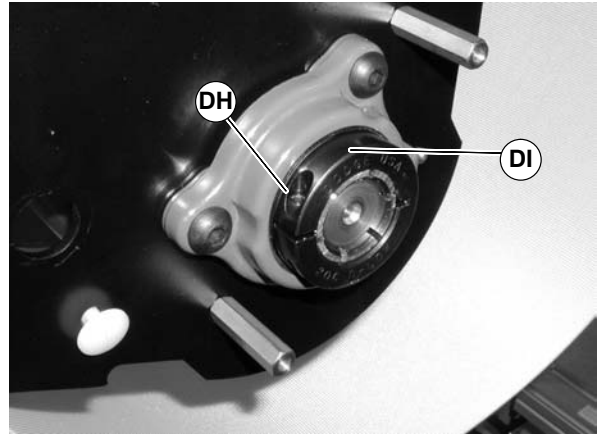

Figure 110
3. Loosen clamp screw (DH of Figure 110) and remove bearing collar (DI).
7. Reinstall bearing collar (DI of Figure 110). Tighten clamp screw (DH) to 95 in-lbs (11 N-m).